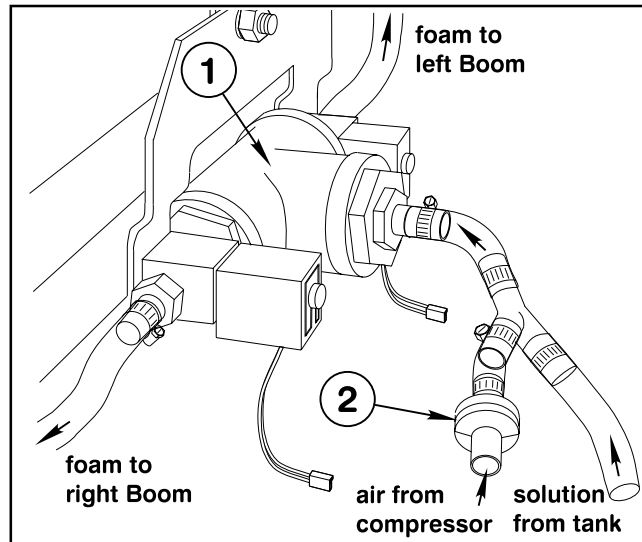

Figure 3
NOTE: The Mixer Tee (Fig. 3) can flood if the solution to air mixture is too rich, producing watery foam. If foam is too dry, it will flow in unsteady high pressure surges.
EVERY 500 HOURS (Fig. 3):
1. Replace the Plastic Check Valve at the "Y" near the Mixer Tee Assembly located at the rear of the vehicle, on the Center Boom. (FIG. 3)